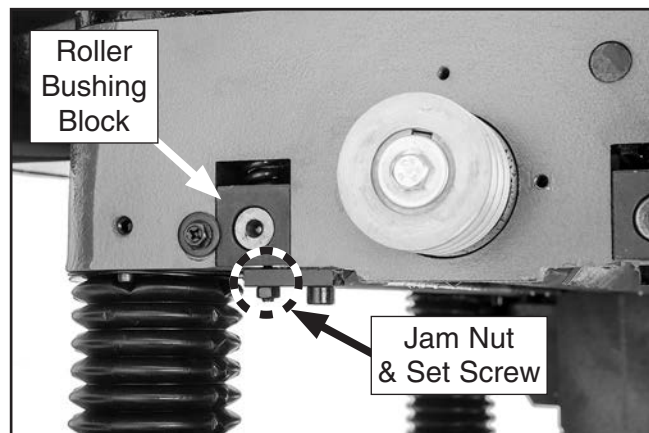

Figure 64. Infeed roller bushing block and height adjustment controls.
8. Loosen jam nuts and use set screws on each side of feed roller (see **Figure 64**) to adjust height of infeed roller bushing block until Rotacator dial shows 0.020", which is the recommended distance for infeed roller below cutterhead.